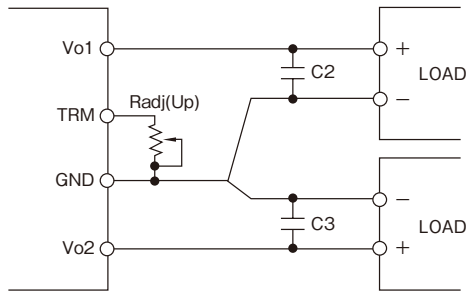

Fig. 3-4: Connection for output voltage trim up
- a) GND terminal: to adjust to higher output voltage; Fig.3-4 or